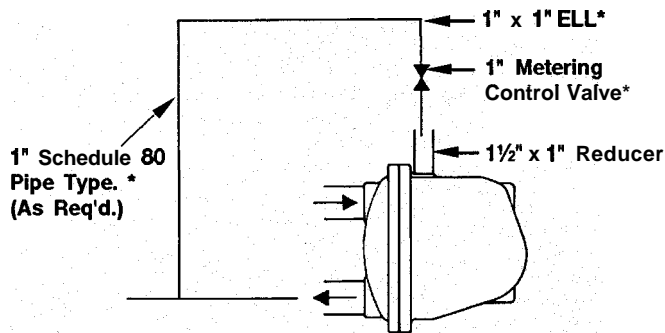

FIGURE 4. Piping arrangement when flash steam and noncondensables are to be removed and discharged directly to the condensate return line.
- E) When flash steam and noncondensables are to be removed and discharged directly to the condensate return line, use the piping arrangement in Figure 4.